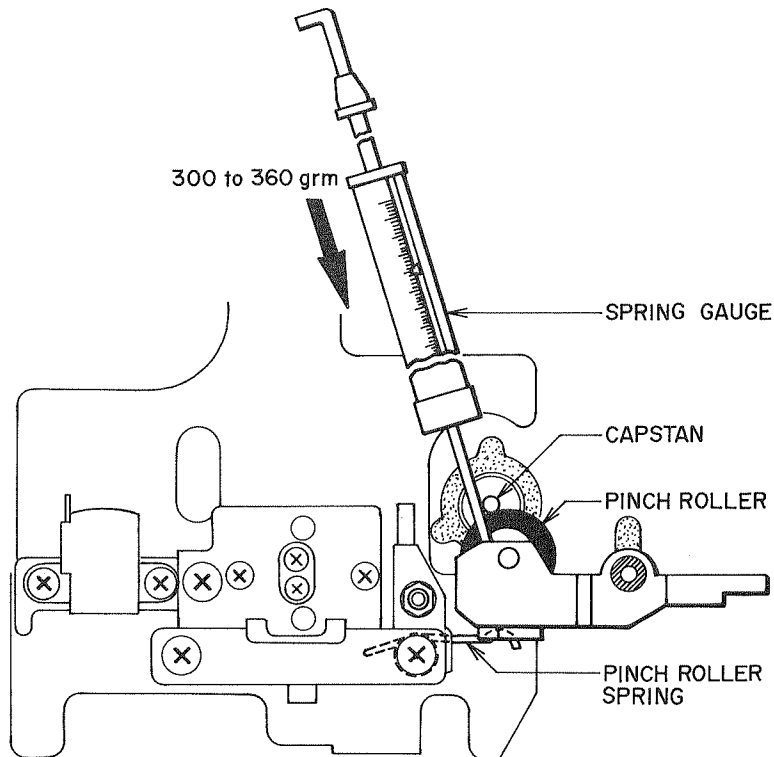

Fig. 4 Pinch Roller Pressure Measurement
2. PINCH ROLLER PRESSURE MEASUREMENT (Refer to Fig. 4)